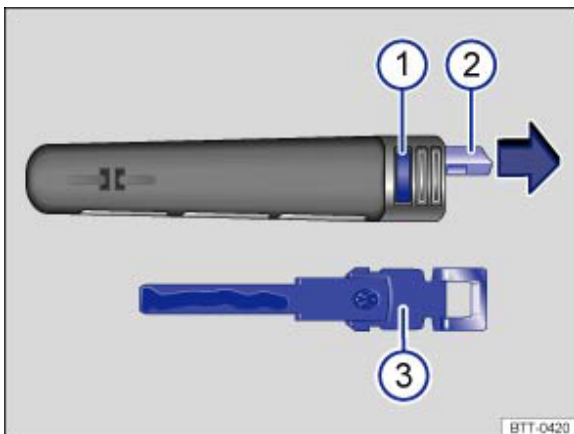

Fig. 21 Vehicle key: press button ① and remove the spare key ③ by the ring ②
A spare key → Fig. 21 ② is located in the vehicle key. It can be used for manual locking and unlocking.
In the vehicle key → Fig. 21 :